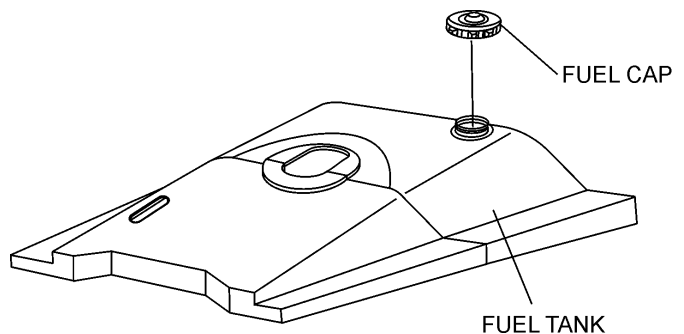

Figure 6. Fuel Tank
1. Remove the gasoline cap (Figure 6) located on top of fuel tank.